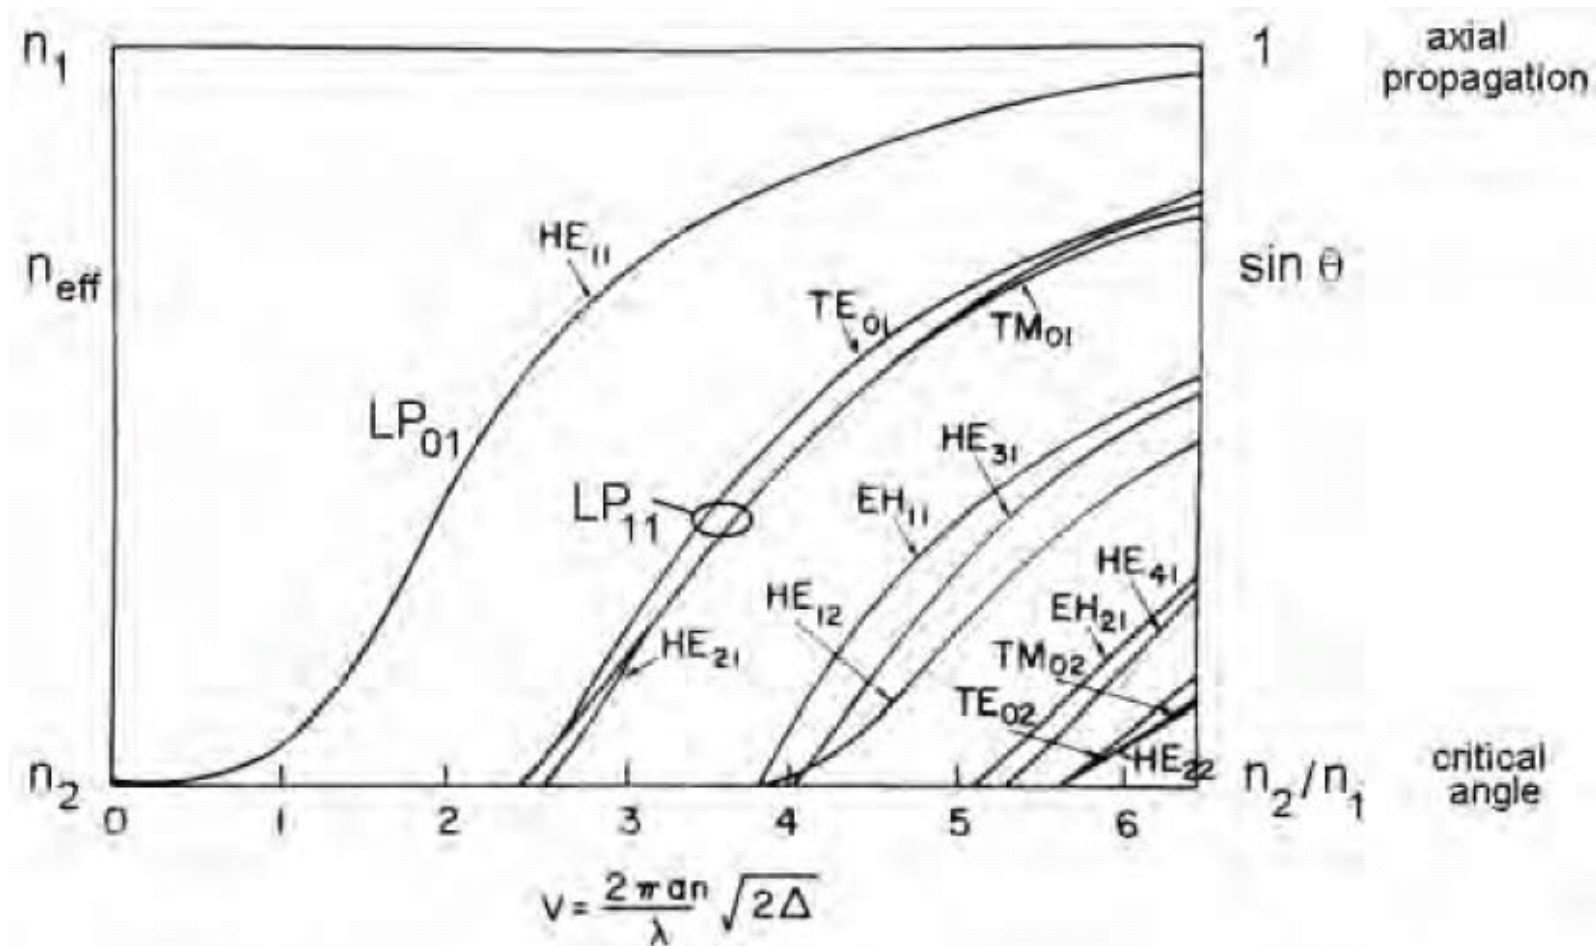

Figure 4-9 Mode chart for optical fiber
- The resulting variation in n_{eff} for a fiber is shown in **Fig. 4-9**, plotted versus the **dimensionless V** parameter.